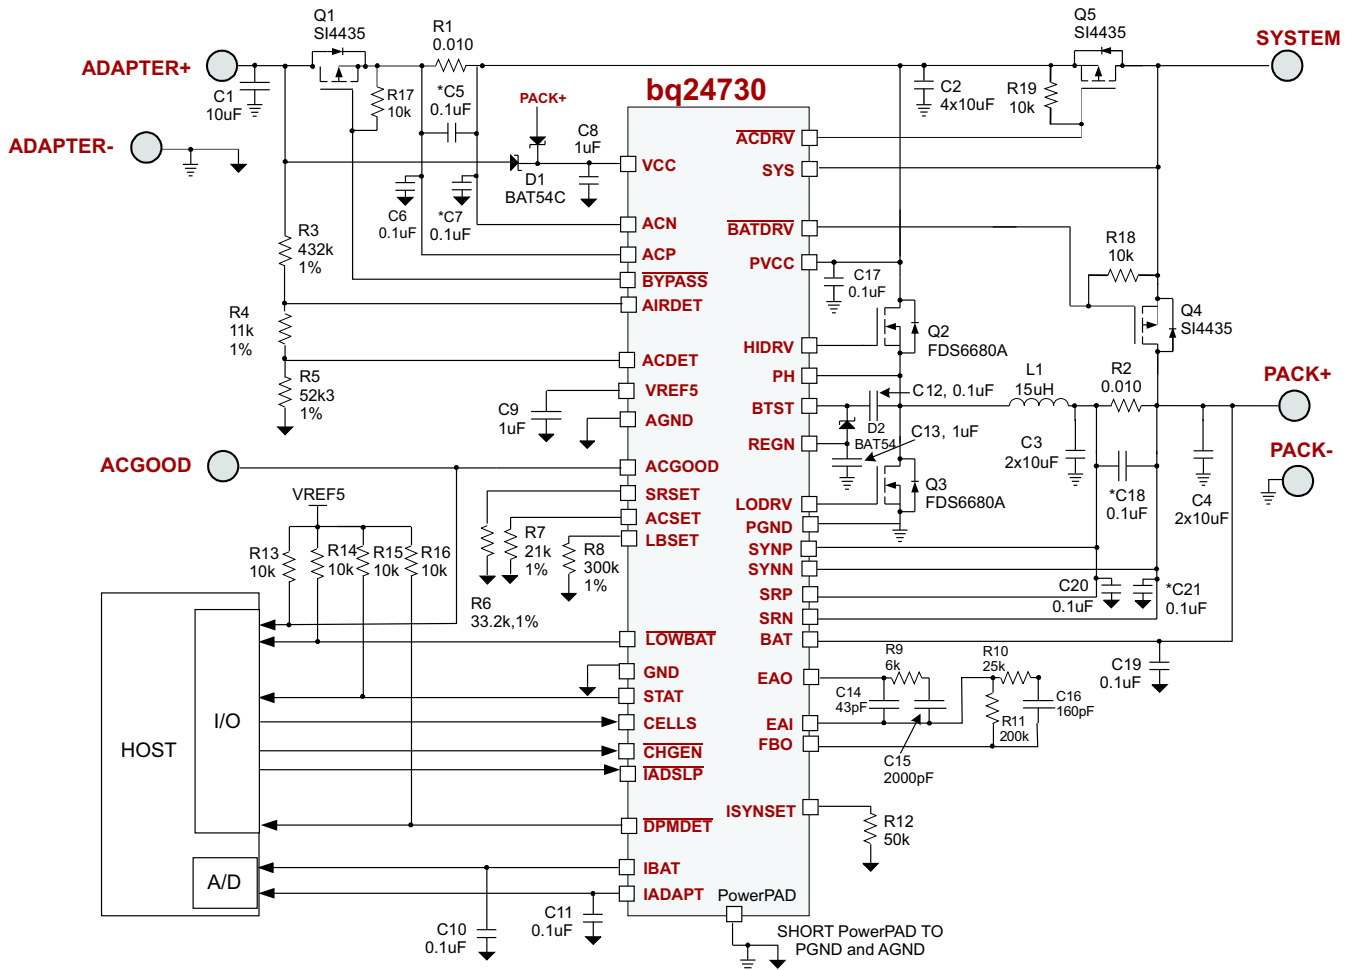

Figure 26. bq24730 Host Control With System Power Selector
BOM Key Components (For Figure 26, bq24730 Typical Application Circuit)
(1) The manufacturer's part number are used for test purposes only.
**BOM Key Components (For Figure 26, bq24730 Typical Application Circuit) (continued)**